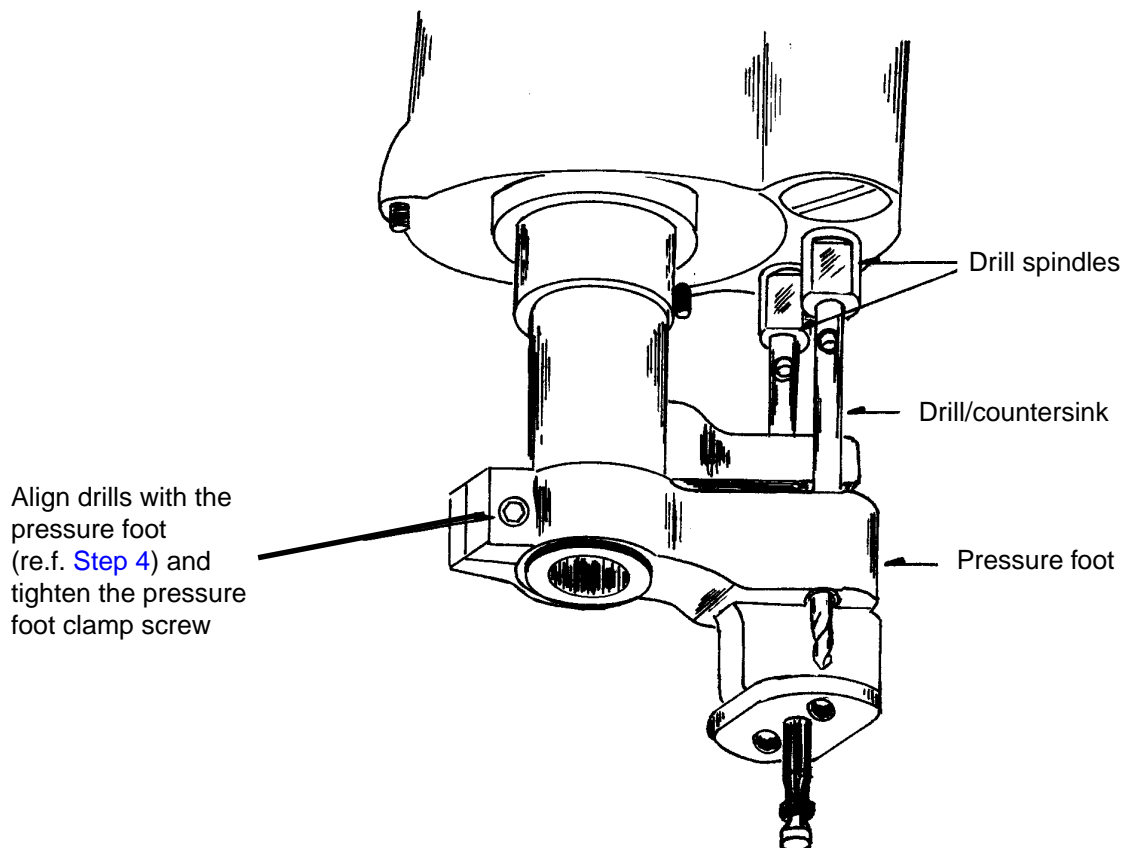

Figure 3 - Installation of Drill/Countersinks
5.2.2 Install drill/countersinks as follows (see Figure 3):